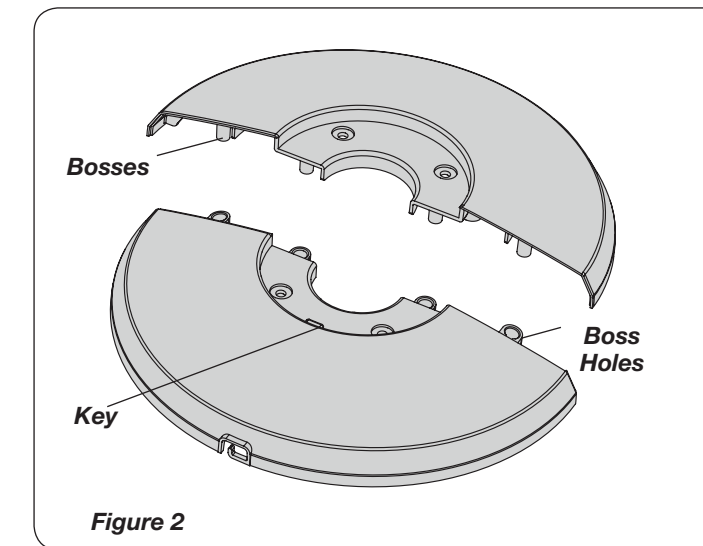

Figure 2
1. Assemble the Base by interlocking the **Bosses** into the **Boss Holes**. (Figure 2)